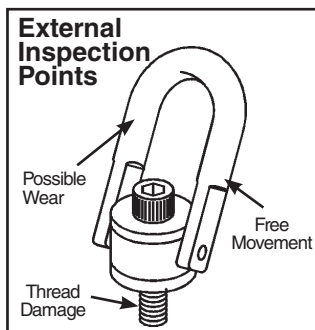

Figure 3
- Regularly inspect hoist ring parts (Fig.3).